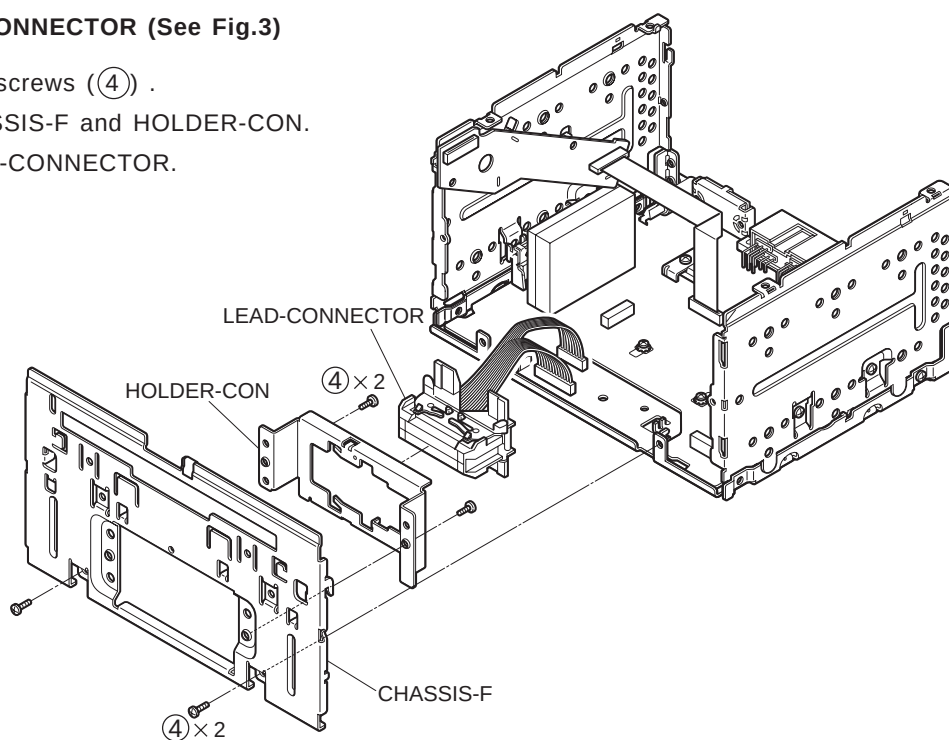

Fig.3
3. Removal of LEAD-CONNECTOR (See Fig.3)